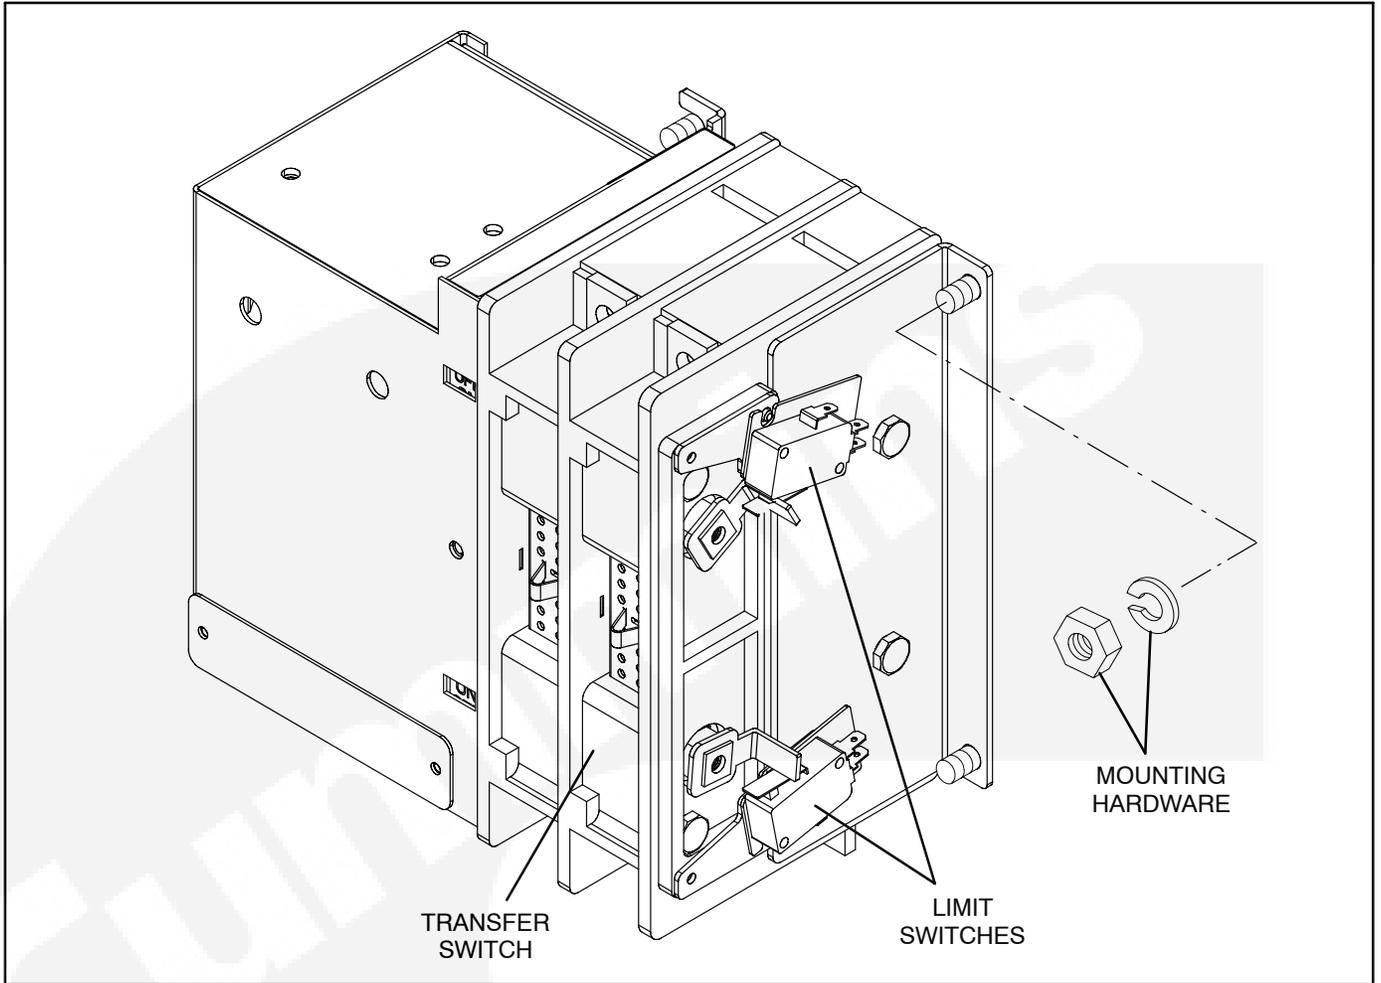
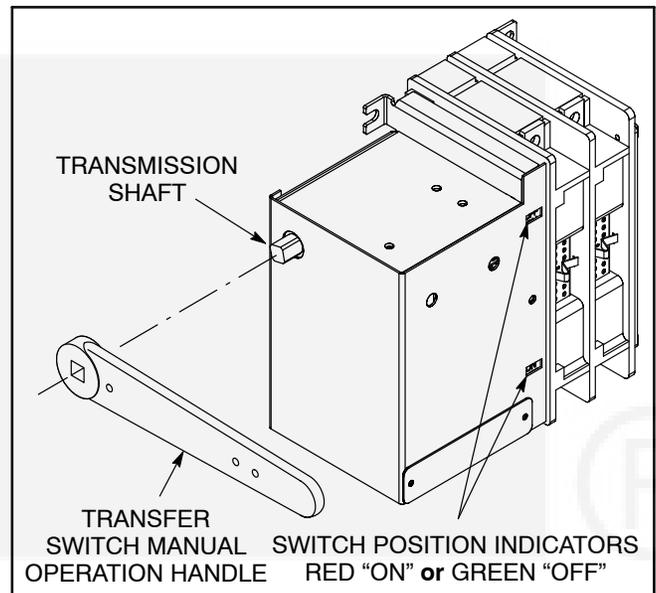

FIGURE 4-3. TRANSFER SWITCH REMOVAL
FIGURE 4-4. MANUAL OPERATION HANDLE
3. Mark and disconnect all wires connected to the limit switches (see Figure 4-3).
5. Install the new limit switches. Use the manual operation handle (see Figure 4-4) to rotate the shaft so that the limit switches are installed as shown in Figure 4-3.